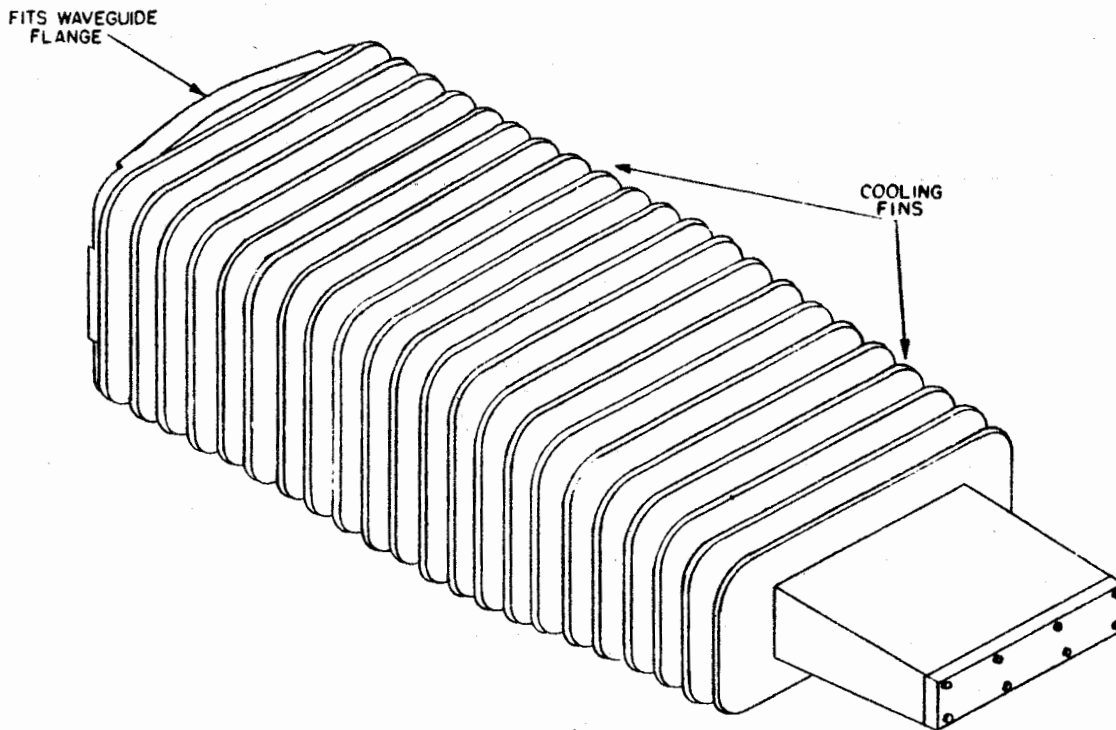

Figure 4-22. Typical Dummy Antenna for Radar Transmitter
a. GENERAL DESCRIPTION.- Dummy antennas do not radiate RF; they absorb RF power from the transmitter under test and dissipate it in heat. Each type of dummy antenna or dummy load is designed to operate over a specified range of frequencies. They are used for testing transmitters from the very low frequencies to the highest radar frequencies. The dummy antenna shown in Figure 4-22 is of the radar type. It is constructed of a waveguide with a high loss, tapered, ceramic insert. Almost all the RF energy is converted into heat. This is given off, by means of cooling fins surrounding the waveguide. The input end is equipped with a flange cover plate to a choke coupling (such as UG-52/U) of the RF transmission line of the radar.